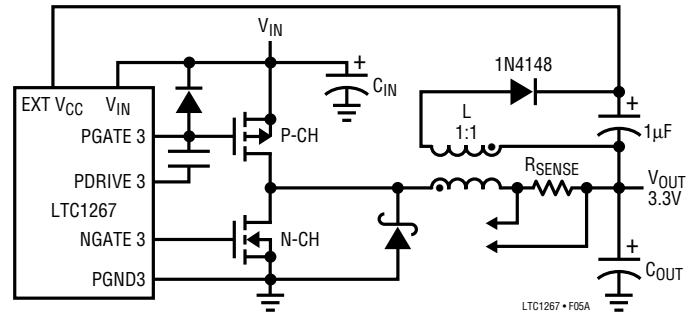
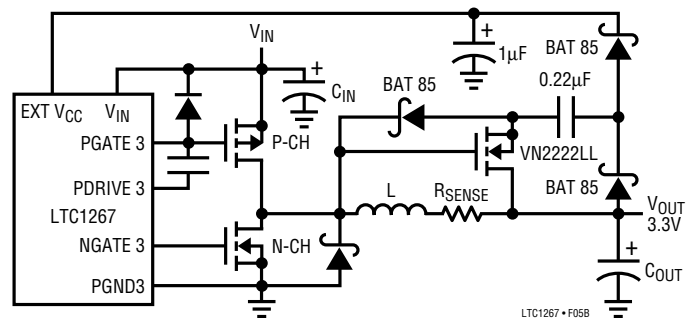

Figure 5a. Inductive Boost Circuit for EXT  $V_{CC}$
Figure 5b. Capacitive Charge Pump for EXT  $V_{CC}$
3. EXT  $V_{CC}$  connected to an output-derived boost network. For 3.3V and other low voltage regulators, efficiency gains can still be realized by connecting EXT  $V_{CC}$  to an output-derived voltage which has been boosted to greater than 4.5V. This can be done either with the inductive boost winding shown in Figure 5a or the capacitive charge pump shown in Figure 5b. The charge pump has the advantage of simple magnetics and generally provides the highest efficiency at the expense of a slightly higher parts count.